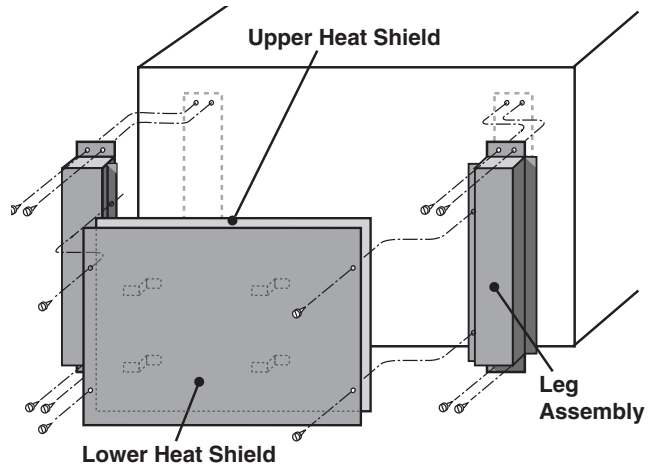

Fig. 1 Leg & Heat Shield Assembly
5. Attach leg/heat shield assembly to the base of the stove using eight (8) self-tapping screws (fig. 1).